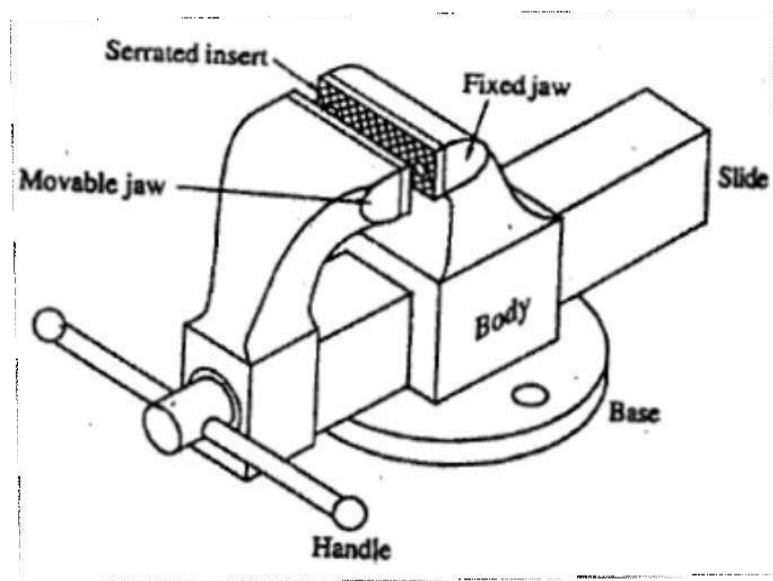

Fig. 14 Bench Vise
**Bench vise:** (Fig.14) The bench vise is the work holding device most commonly used by the machinist. It consists of the fixed jaw, movable jaw, the screw and nut assembly, the handle and jaw inserts. The body of the vise is made of ductile iron or malleable iron. The screw which usually has an Acme thread, is made of steel, and the nut, which is fastened inside the fixed jaw is of bronze casting. The hardened steel jaw inserts on the jaws are serrated for greater gripping power. The solid base of the vise is mounted on a workbench by means of bolts and nuts. The size of the bench vise is specified by the width of the jaws.